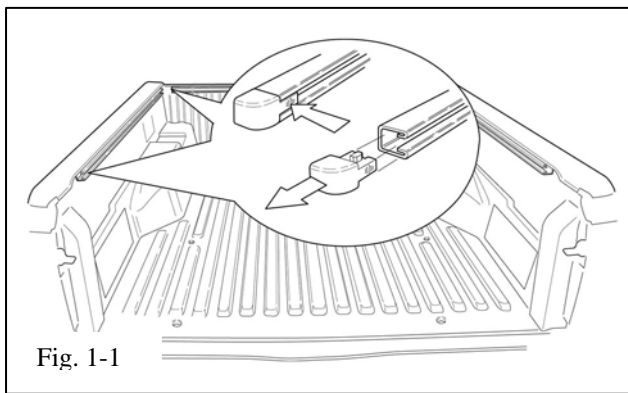

Fig. 1-1
- (b) Push on the end cap tab as shown and remove one end cap from the appropriate side rail and front rail. (Fig. 1-1)